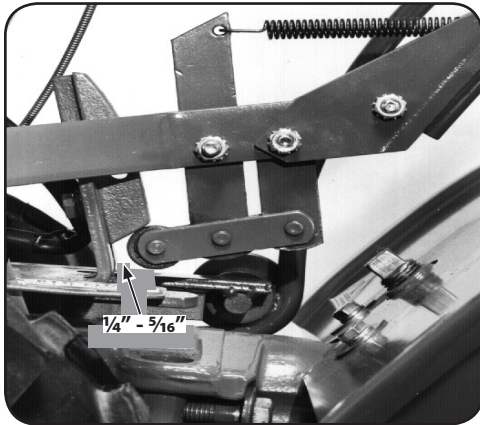

Figure 5-13
2. Move the Wheels/Tines/PTO Drive Lever fully down to the FORWARD position. The clutch roller at the bottom of the lever should be positioned underneath the belt adjustment block. See Figure 5-13. Don't let the clutch roller move during the next few steps. If it moves, you'll get a false belt tension reading.
3. The belt tension is correct if the front of the clutch roller is  $\frac{1}{4}$ "-to- $\frac{5}{16}$ " away from the face of the upright bracket that holds the adjustment block in place. See Figure 5-13. To measure this distance: